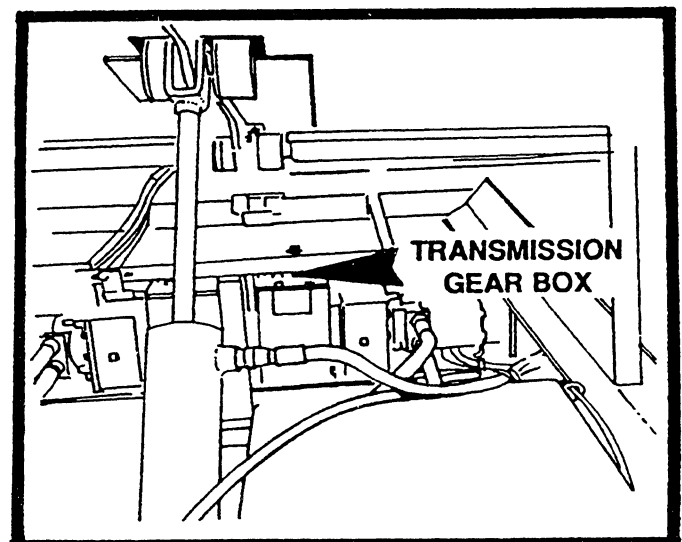

FIGURE 38
1. Check oil level in the two transmission gear boxes as shown in figure 38. If oil is required use 90 wt. gear oil. There is a dipstick provided to check oil level.